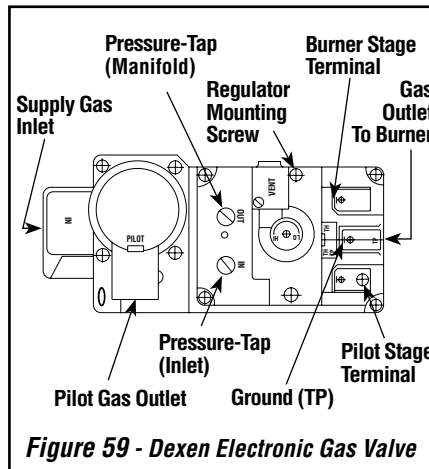

Figure 59 - Dexen Electronic Gas Valve
Step 7. Dexen Electronic Valves - See **Figure 59** and the instructions provided with the kit. Remove and discard the two pressure regulator mounting screws. Remove the pressure regulator and diaphragm. Discard all removed components. Ensure the provided diaphragm is installed properly onto the replacement pressure regulator and install the new pressure regulator using the new screws supplied with the kit. Tighten screws.